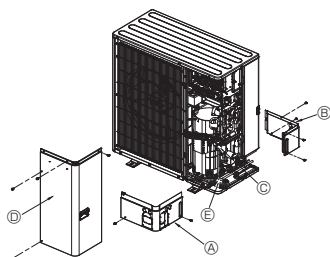

Fig. 4-3
4.3. Aukstumaģenta caurules (Fig. 4-3)